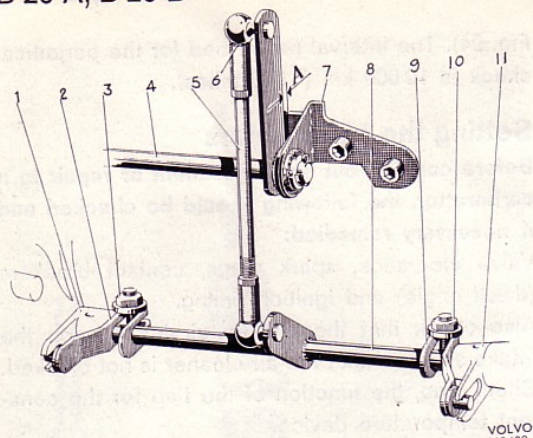

Fig. 118 Intermediate shaft and levers
2. Fit the intermediate shaft in position between the carburetors, see Fig. 118. Make sure that the protective plate is not damaged and that the sealing surfaces are clean.
- Place a feeler gauge 0.5 mm (0.02") at "A" Fig. 118, between the lever and its stop. Screw out the fast-idle stop and throttle stop screws so that the throttles are closed completely.
- Release the nuts (3 and 10, Fig. 118) and carefully press the outer end of the levers (2, 9) on the intermediate shaft downwards so that the flange pins make smooth contact with the lower tooth on the levers (1, 11) of the throttle spindles.